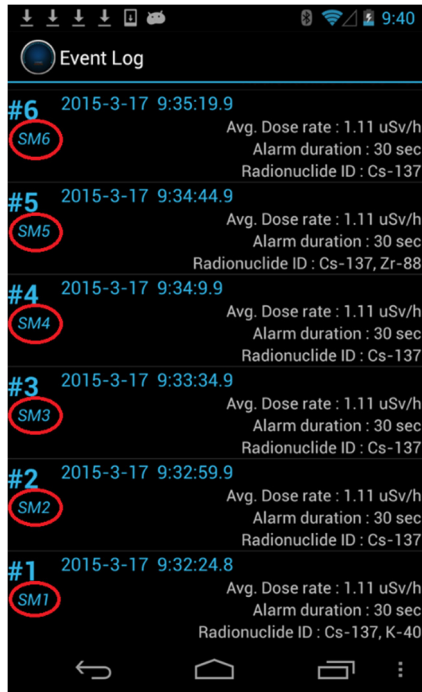

Figure 4.29. Sequential mode Event Log list example
10. You may view saved sequences in the same way you view events (touch the menu button, select **Setup & Event**, then select **Event Log**). Events captured in Sequential mode are labeled with the additional designation “SM#” (Figure 4.29).